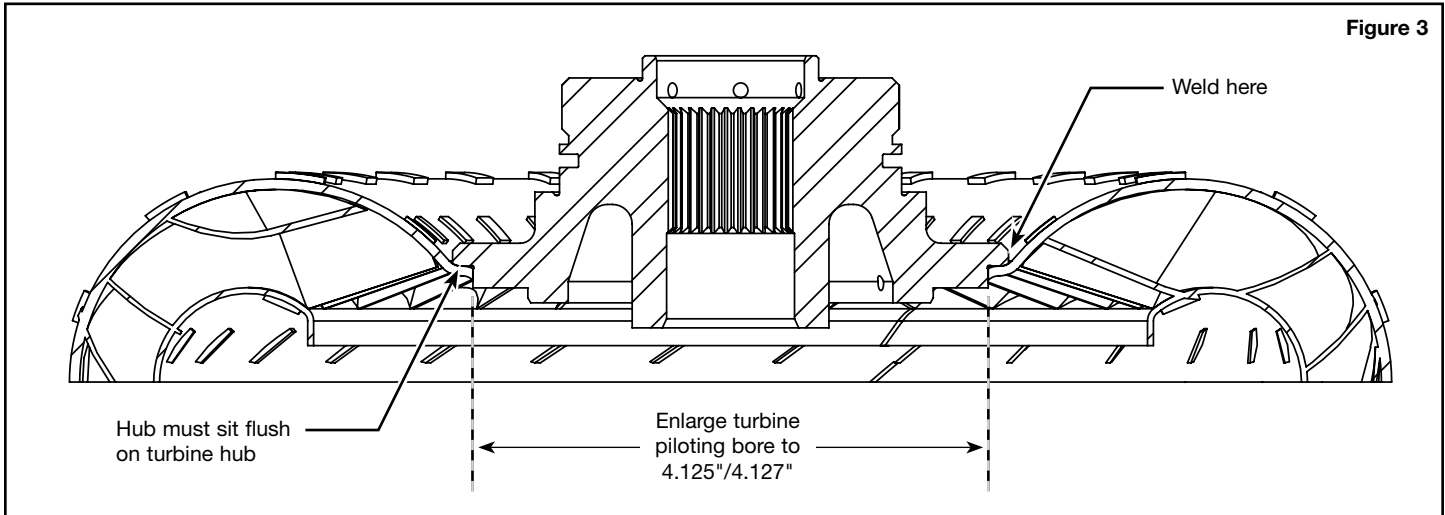

Figure 3
- b. Turn the inside of the turbine to 4.125"/4.127" (Figure 3).